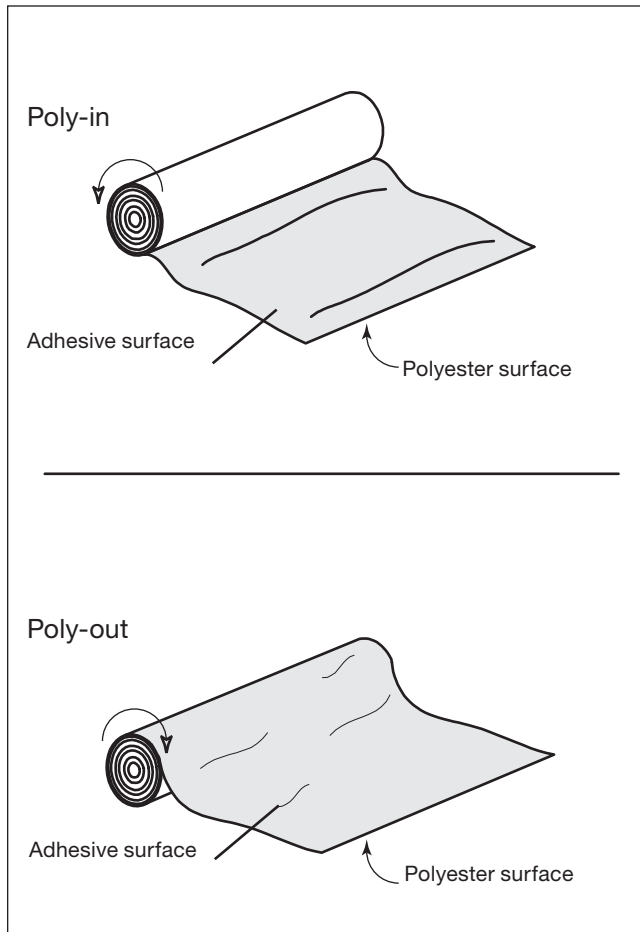

Fig. 6-3. Poly-in and Poly-out Films.
2. Slide the new roll on to the shaft and core adaptors, referring to Fig. 6-3. to determine how the film unwinds from the roll. Use the set screws in the core adaptors to move the adaptors if needed. The grippers on the core adaptors should be pointing in the opposite direction that the film unwinds from the roll.